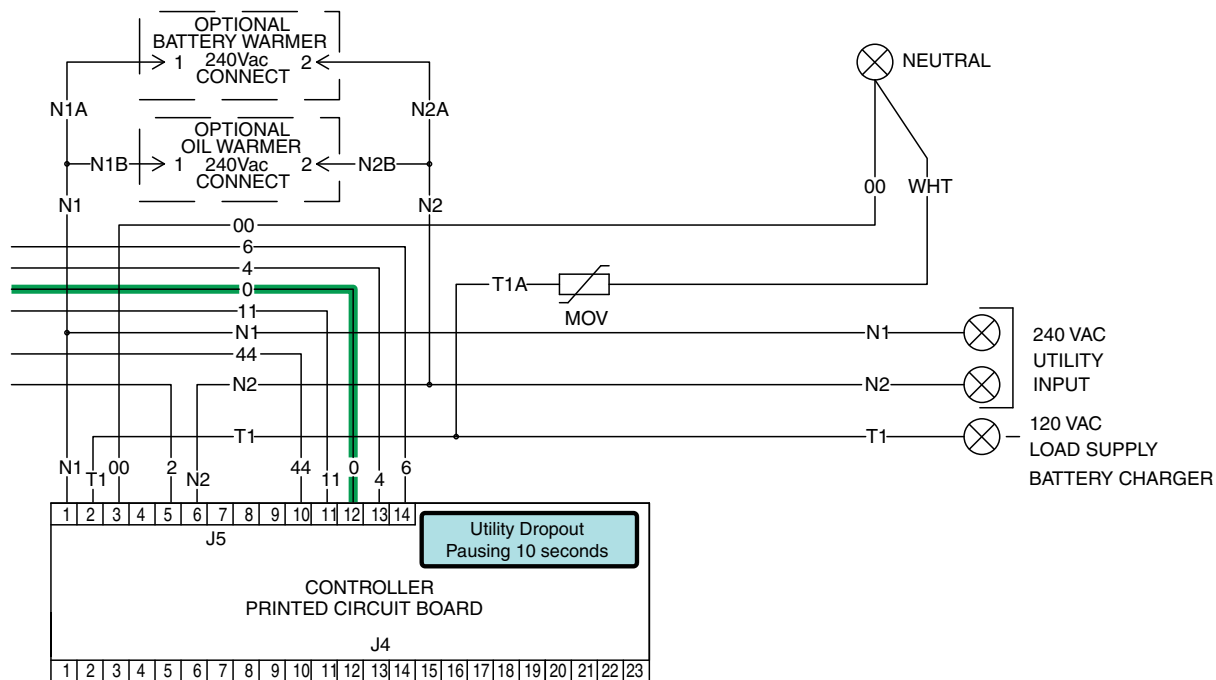

Figure 160.
- In Figure 160, the 10-second timer is still timing and engine cranking has not yet begun.